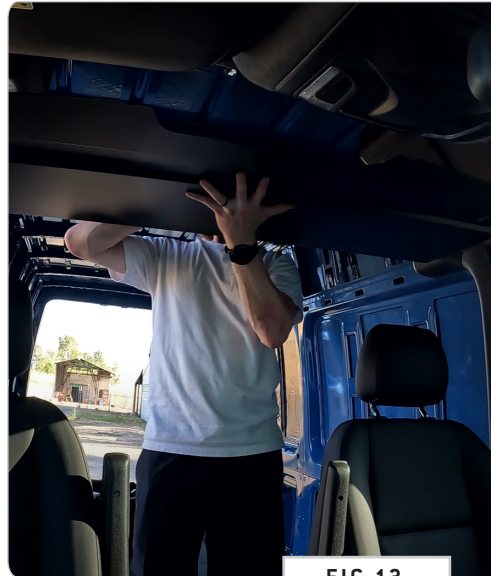
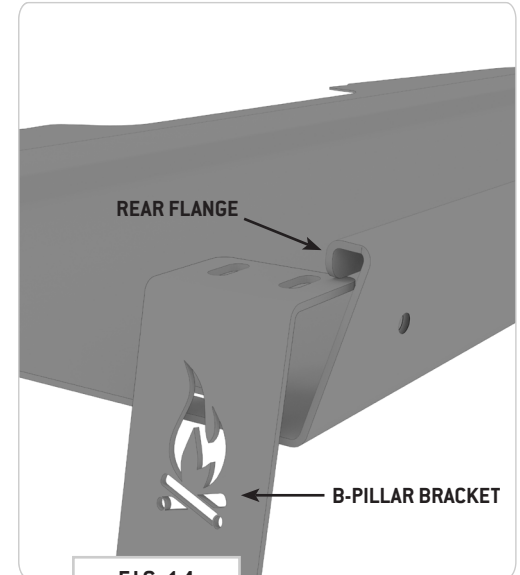

FIG 13
FIG 14
4.1 Position Headliner Shelf: With help, raise up and place your **Headliner Shelf** so that the **front edge** rests on the **visors** of the van (**FIG 13**) and the **rear flange** rests the **B-Pillar Bracket** flanges as shown in **FIG 14**.